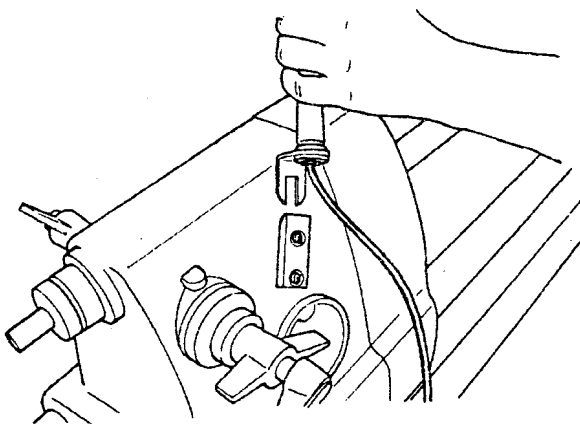

Fig. 7
12. Install the Utility Light by sliding its U-clamp in the support bracket, as shown in Fig. 7.